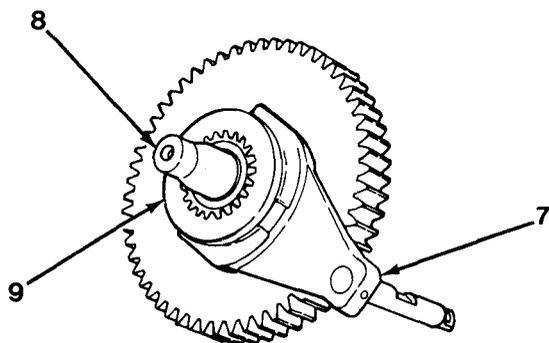

Figure 11-4
9. Remove fork (7) from shift collar (9, Figure 11-4).